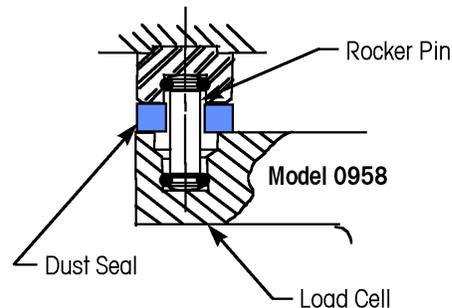

Figure 8-9: Rocker Pin Arrangement for Centerlign Weigh Modules
8. After securing all the top plates and base plates, slowly raise the weighbridge off the lower part of the weigh modules and replace each alignment tool with a rocker pin (see Figure 8-9). Place a rubber O-Ring on each end of each rocker pin. Lubricate the O-Rings and both ends of the rocker pins with a high-quality grease, such as FEL-PRO Food Grade AA Anti-Seize lubricant.